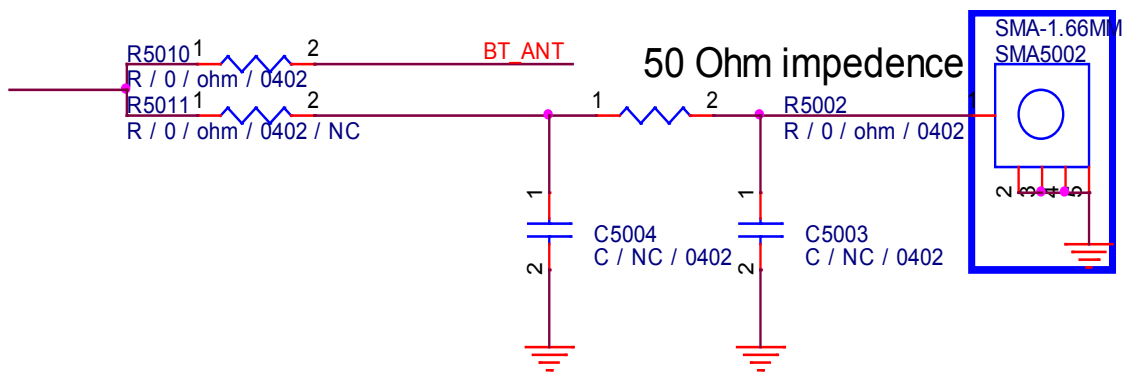

Figure 14. The  $\pi$  shape for antenna matching
- 2) LinkIt 2523 HDK's Bluetooth support has integrated match filters, so there is no need to reserve any other component except a  $\pi$  shape net for antenna matching, the net is shown in Figure 14 and Figure 15 for schematic and layout routing. Keep 50 $\Omega$  impedance with tolerance of 10% offset.